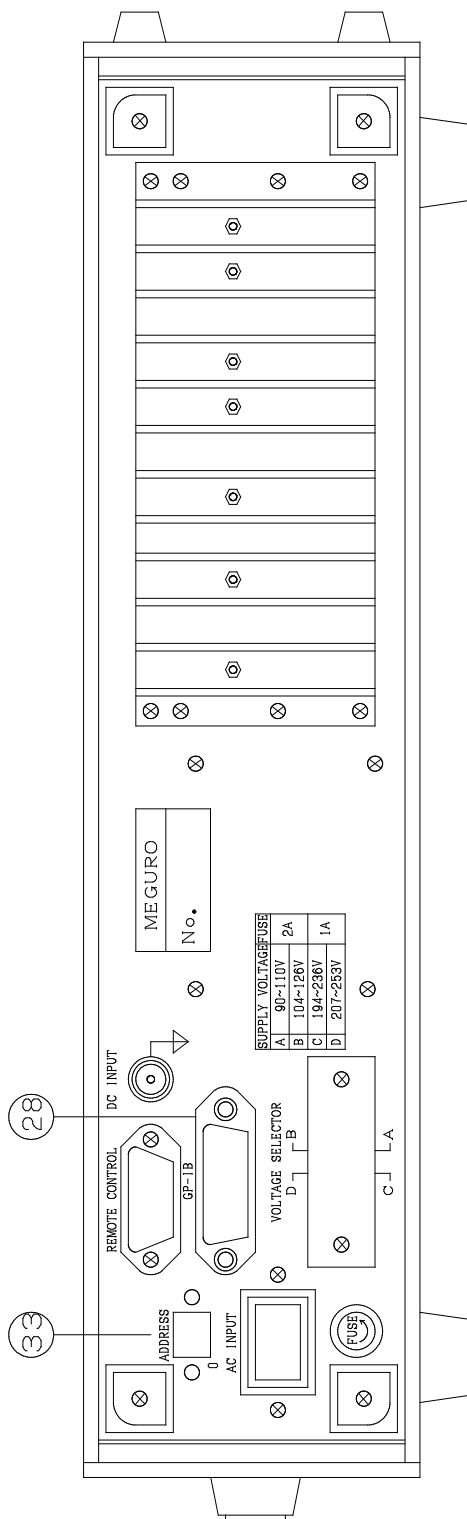

Fig. 13
9.3.2 Rear panel (See Fig. 13)
⑬ GPIB Connector